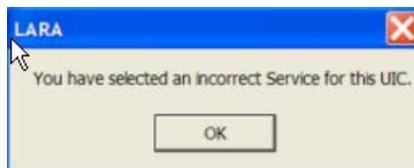

Figure 34. Warning
- Press the save changes button. If UIC is not corresponding with the service the above error will appear (Figure 34). Fix the service or UIC and press save changes again.